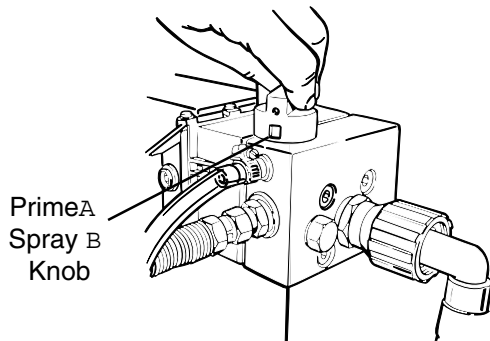

Figure 22 - Priming Knob Setting
3. Turn **PRIMING KNOB** to **SPRAY B** position. Figure 22.